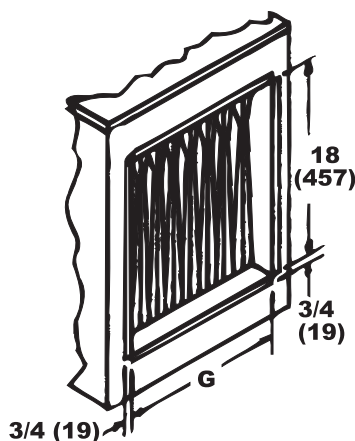

Figure 12. Ductwork Connection Dimensions (Refer to Table 7)
- **Connection dimensions:** Connection dimensions (inches (mm)) are shown in Figure 12 and listed in Table 7.
Dimension G (See Figure 12 , Inches (mm))